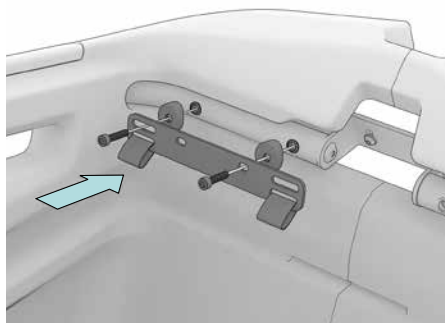

Fig. 6 Installation on one side, head area of the hung-in Infant-Sling-Mount.
Place a washer (4) under the head of each cylinder head screw (2) and push the screw through the connector plates. The hole positions to be used in the connector plates depend on the installation position in the box (Figs. 6, 7, 8 and 9).
Each screw shaft receives one adapter plate (1) behind the connector plate, with the concave side facing the rail. Secure the screw thus inserted with an O-ring (3). Now secure the connector plates at the front and rear to the top rails (5 mm Allen key, 5–8 Nm tightening torque) (Figs. 6, 7, 8 and 9).